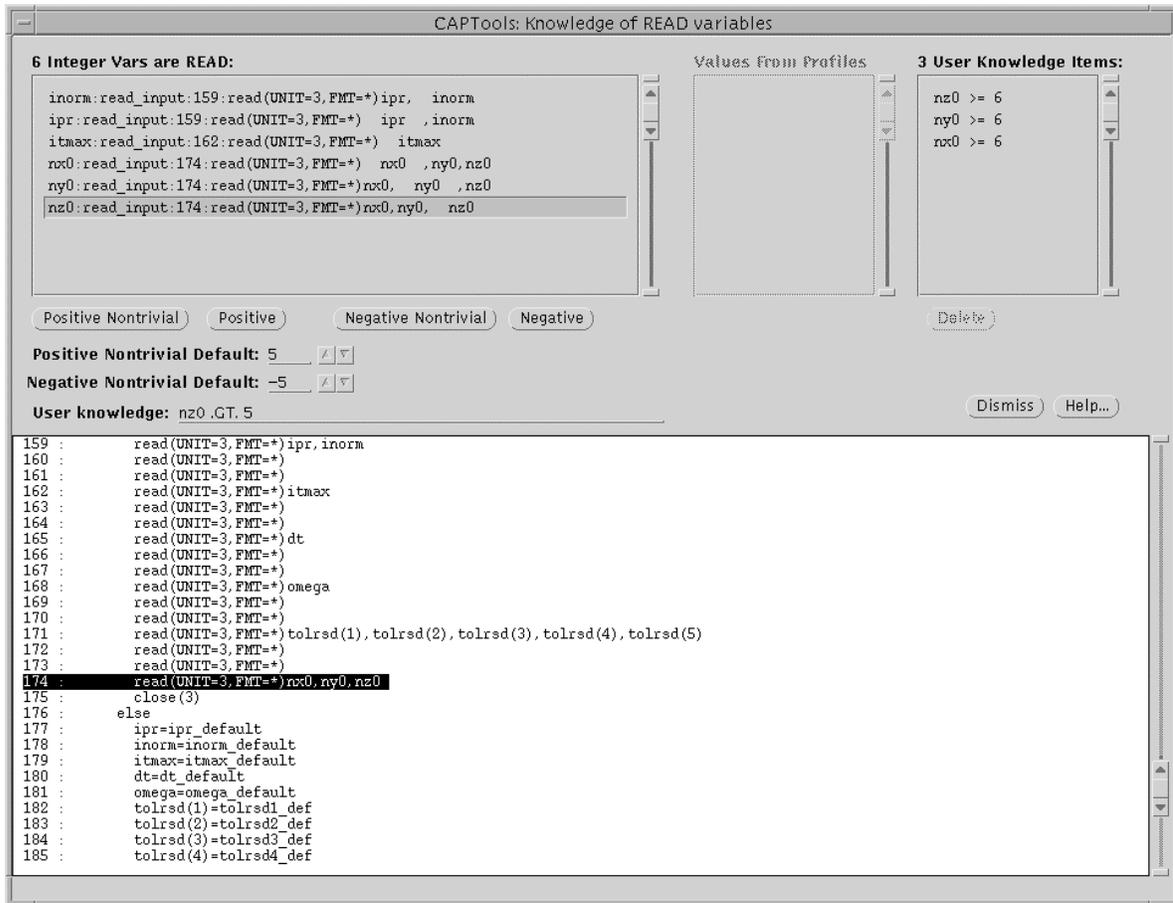

Figure T2-1: The READ Knowledge window for entering initial user knowledge.
- 1. Load file and enter user knowledge.** Click *Load F77 Source* in the **File** menu. Select All.list and click the **Load** button. Select *READ Knowledge* from the **Edit** menu. In the **READ Knowledge** window, select variable `nx0` and click **Positive Nontrivial**, see Figure T2-1 on next page. Apply the same steps to variables `ny0` and `nz0`. These three variables define the number of grid points in each dimension. Making them positive nontrivial (> 5 in the current case) improves the quality of data dependence analysis.